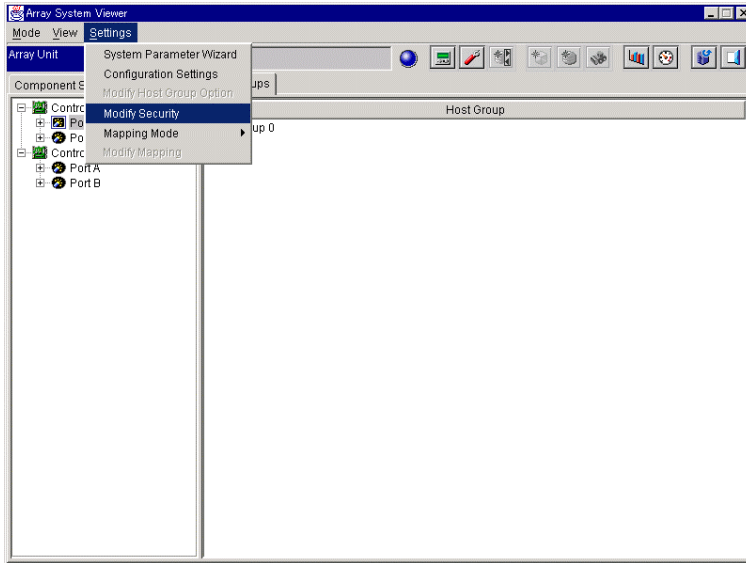

Figure 4.2 Array System Viewer Panel (Setting Security Information)
4. From the **Settings** menu, select **Modify Security** (see Figure 4.2).
4. From the **Settings** menu of the Array System Viewer panel, select **Modify Security** (refer to Figure 4.2).